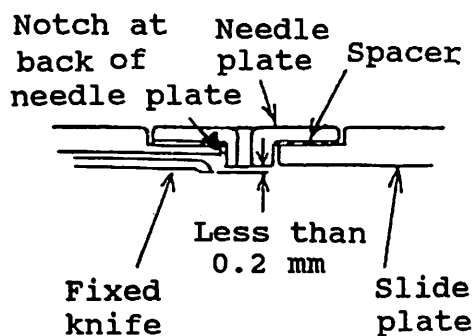

Fig. 9.28
- (2) Reduce the bobbin thread tension and, based on this, the needle thread tension as well since trimmed thread will contract when the bobbin thread tension is too high or when elastic thread is used. For the same reason, it is recommended that the thread be wound around the bobbin with the lowest possible tension.
- (3) If the fixed knife projects too far from the bottom of the needle plate, there is a danger that the thread--and this is particularly true with thin thread--will rub against the fixed knife blade and that it may break or that the bobbin and needle threads will be shortened before the knife blade engages. To prevent this, install the fixed knife at a distance from the needle plate hole or remove the spacer below the needle plate to create a clearance of 0.2 mm or less between the fixed knife and needle plate. Care should be taken when the needle plate is re-installed to ensure that it is installed in its proper direction: the notch on the reverse of the needle plate should be on the same side as the fixed knife. (Fig. 9.28)